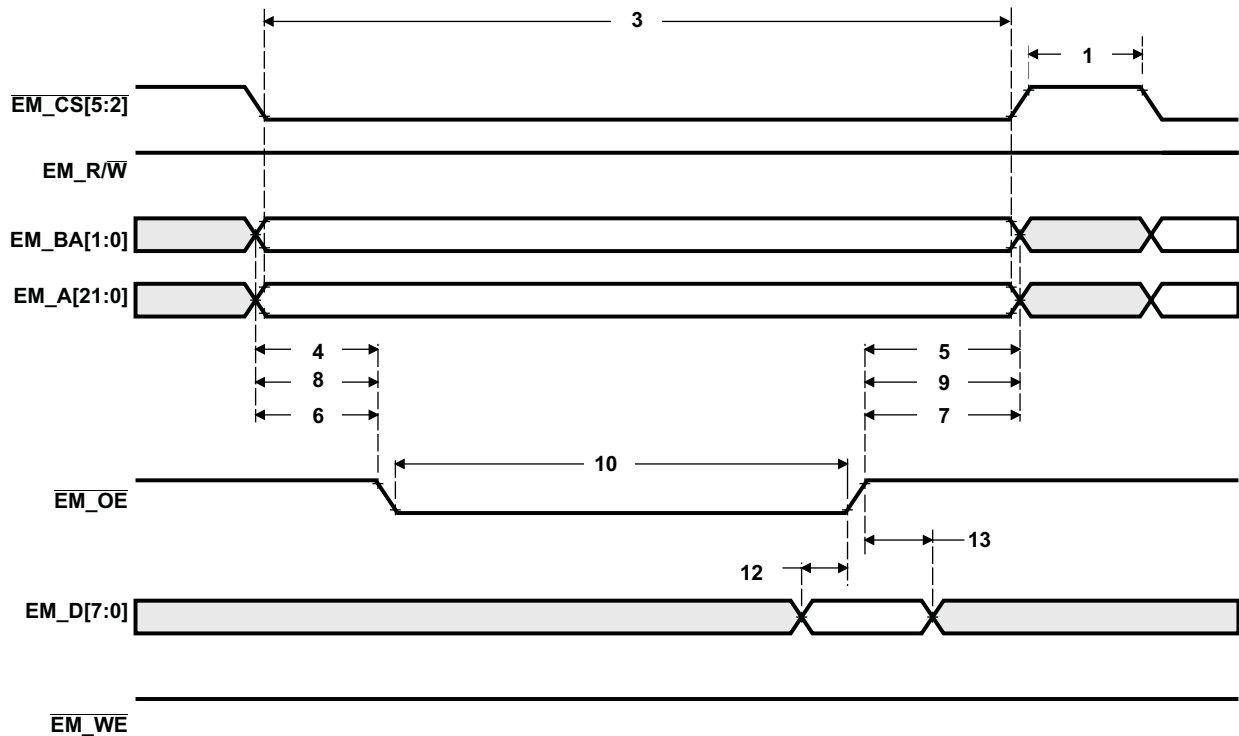
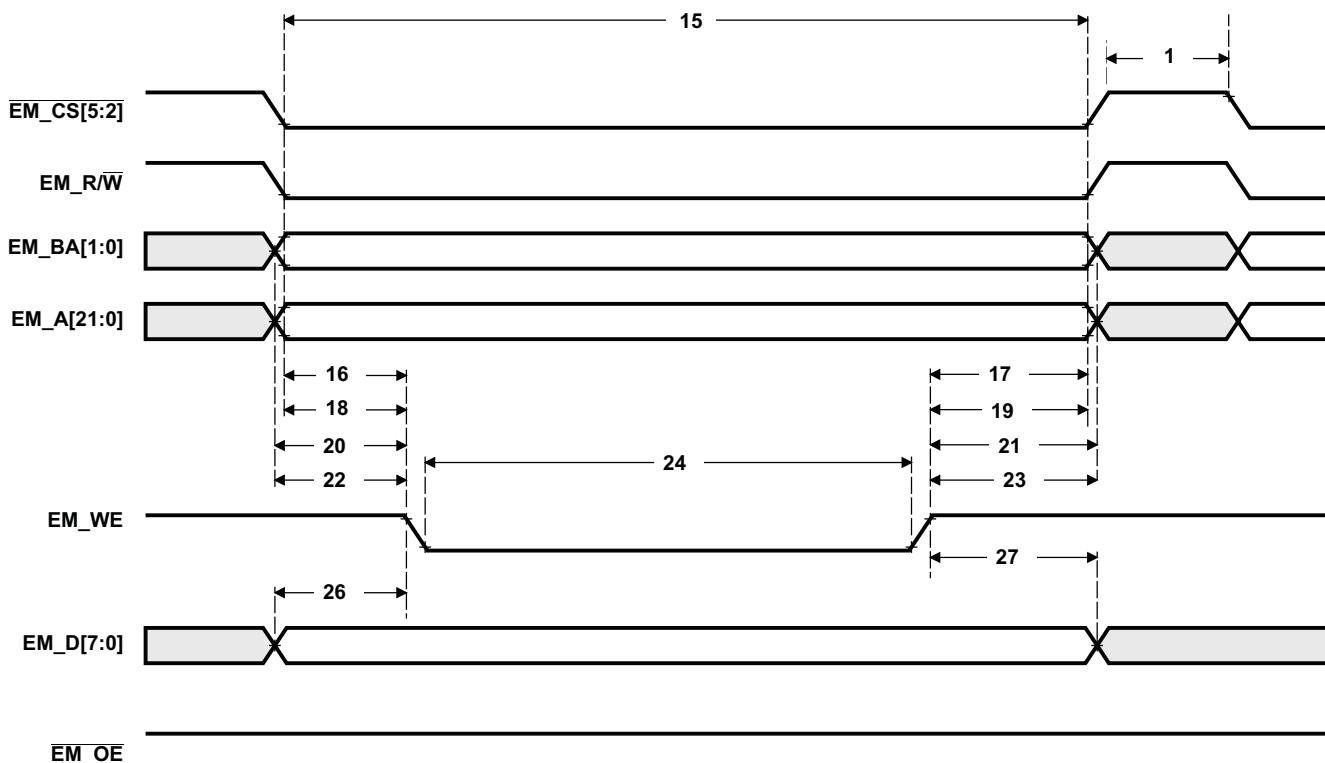

**Figure 6-14. Asynchronous Memory Read Timing for EMIFA**
Figure 6-15. Asynchronous Memory Write Timing for EMIF
(see Figure 6-14 and Figure 6-15)
**Table 6-25. Switching Characteristics Over Recommended Operating Conditions for Asynchronous Memory Cycles for EMIFA Module(1)(2) (see Figure 6-14 and Figure 6-15)**
- (1) RS = Read setup, RST = Read STrobe, RH = Read Hold, WS = Write Setup, WST = Write STrobe, WH = Write Hold, TA = Turn Around, EW = Extend Wait mode, SS = Select Strobe mode. These parameters are programmed via the Asynchronous *n* Configuration and Asynchronous Wait Cycle Configuration Registers.
- (2) E = SYSCLK3 period in ns for EMIFA. For example, when running the DSP CPU at 600 MHz, use E = 10 ns.
- (3) When EW = 1, the EMIF will extend the strobe period up to 4,096 additional cycles when the EM\_WAIT pin is asserted by the external device.
**Table 6-25. Switching Characteristics Over Recommended Operating Conditions for Asynchronous Memory Cycles for EMIFA Module (see Figure 6-14 and Figure 6-15) (continued)**